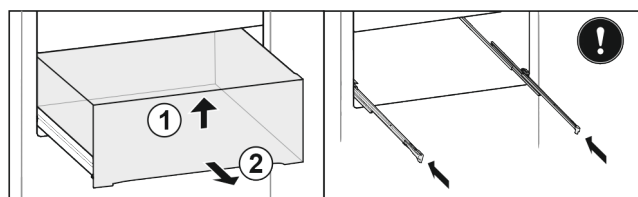

Fig. 27\*
- ▶ Lift up the drawer at the front Fig. 27 (1).\*
- ▶ Take out to the front Fig. 27 (2).\*